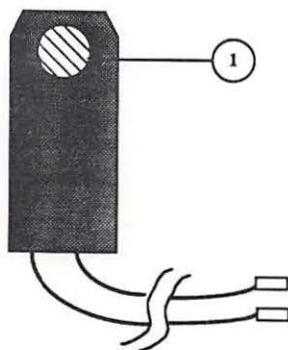

FIGURE 3-2
This procedure requires a multimeter and the laser power checker (see Figure 3-2), which comes in your LaserWriter Spares Kit.
4. Insert the Laser Power Checker (Figure 3-2) into the access hatch with the detector (Figure 3-2, #1) facing the laser. **WARNING:** Make sure the Laser Power Checker is fully inserted, so that none of the laser light can escape from the access hatch.